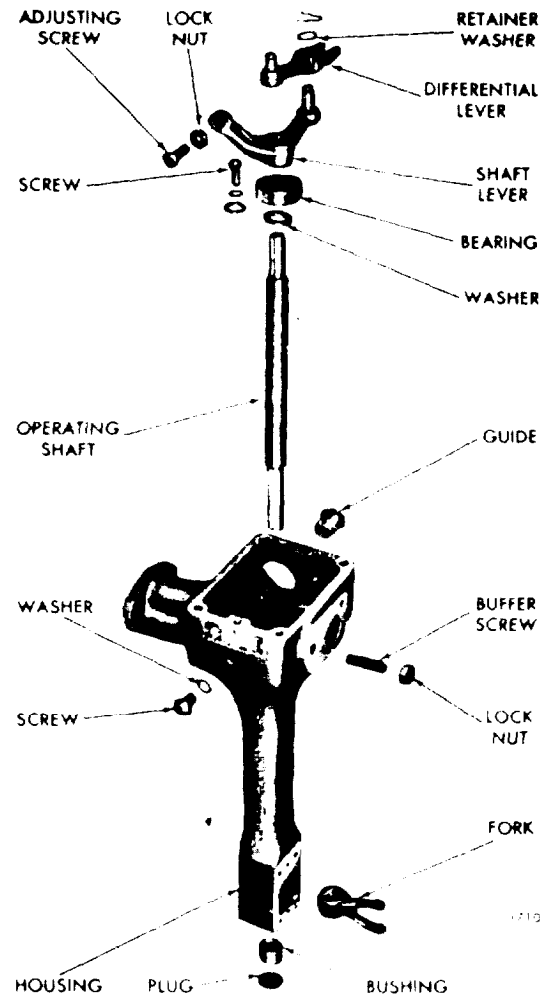

Figure 11C-64. Governor Control Housing Details
- G. Support the control housing bottom side up on the bed of the press. Use a brass rod and press the operating shaft from the operating fork (see Figure 11C-66 on page 11C-39). Withdraw the operating shaft, operat-
- ing lever and bearing as an assembly from the control housing (see Figure 11C-64).